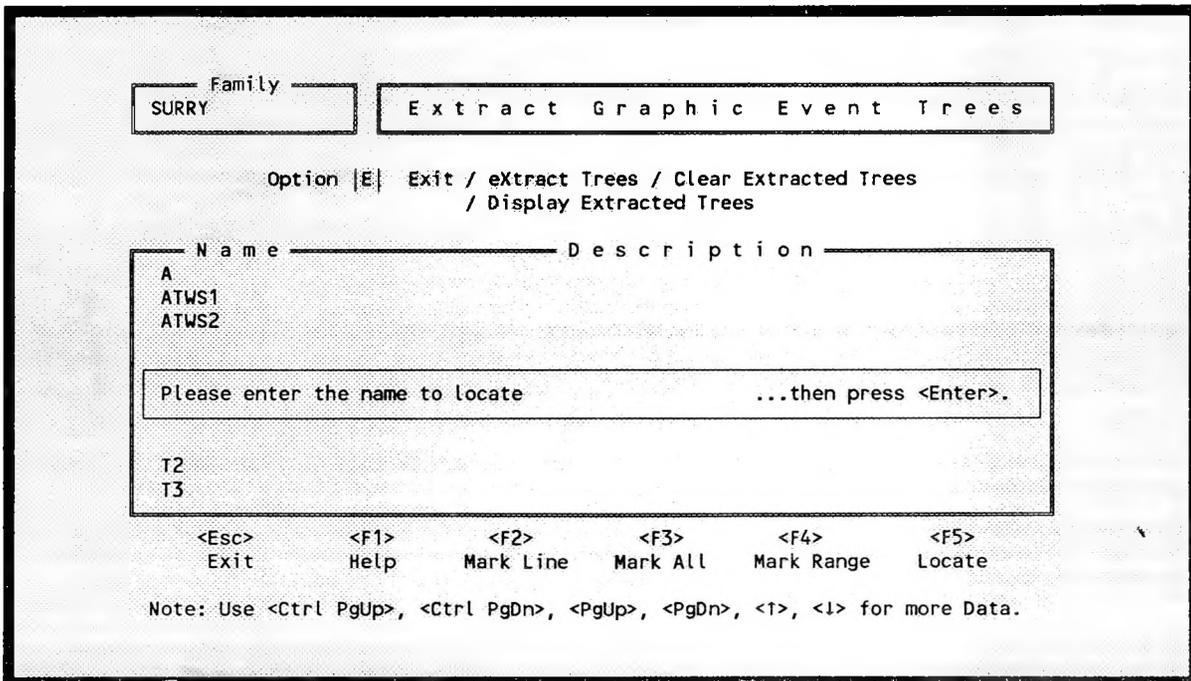

Figure 152. Locating an event tree using the <F5> key.
- <F5> - Allows you to locate a specific file for further processing. When you invoke this function, Figure 152 will be displayed. Enter the file name to locate and press <Enter>. The specified file will be highlighted. If the file name does not exist, an error message will be displayed, and you will be returned to the previous screen.